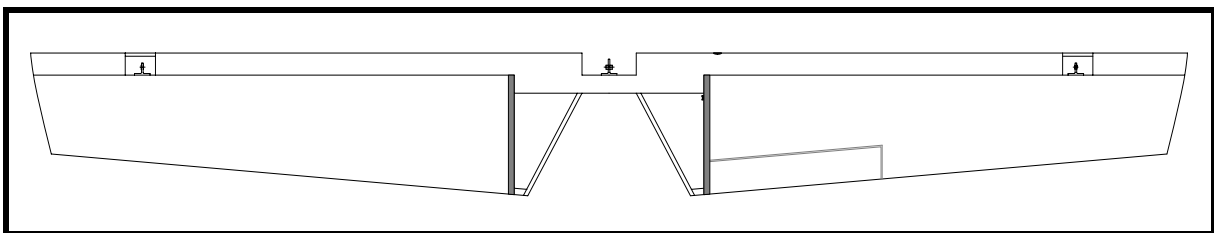

Figure 13
- ❑ Cut and fit the four trailing edge skins for the elevator. These will go from Sta. 1 to the tip of the elevator. Leave extra material on the tip for bending. See Figure 13.